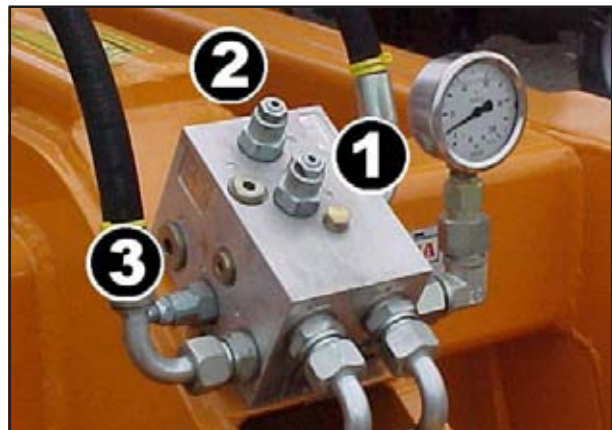

Fig. 2.02: Manifold Block
9. Check the wing pressure on the gauge (shown in Fig. 2.02). If this is above or below the desired value then pressurise the wings to fold which will zero the setting. Increase the pressure on the cylinder side by adjusting the valve (Fig.2.02, valve 3) clockwise. By